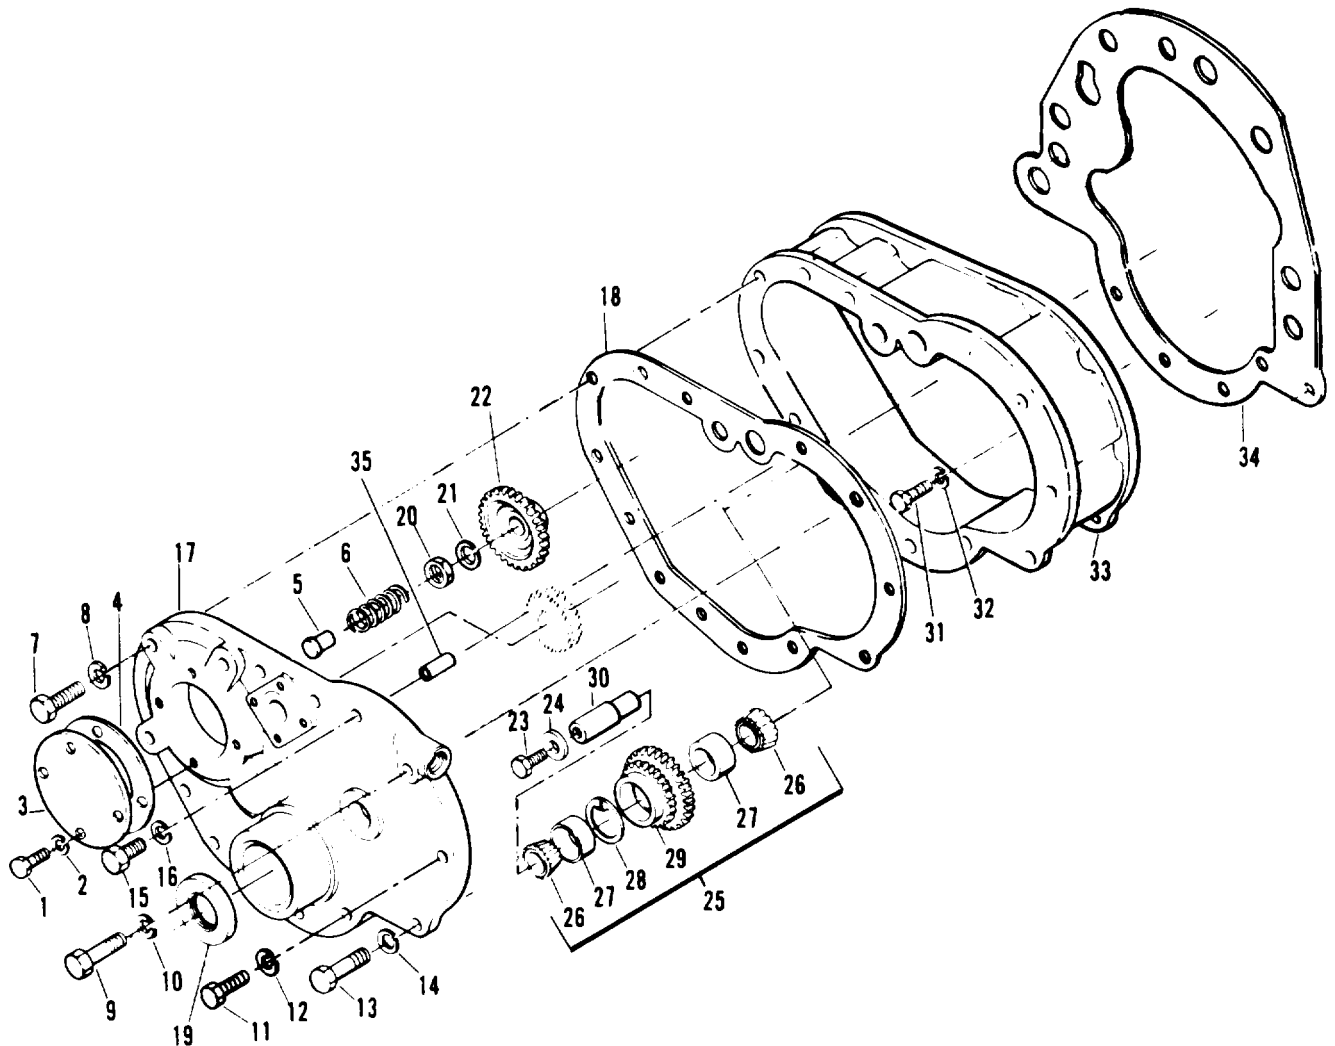

Figure 3-44. Timing Gears and Cover, Exploded View
- (1) Remove the hydraulic pump assembly (paragraph 3-41).
- (2) Remove the fuel injector nozzle from No. 1 cylinder.
- (3) Turn the engine over until the 20 degree before top dead center (BDC) mark on the engine flywheel is aligned with the timing mark on the flywheel housing and No. 1 cylinder is on compression stroke.
- (4) Remove the front engine support (paragraph 3-49).
- (5) Remove screws (1, figure 3-44) and lockwashers (2) to remove fuel pump thrust plate (3), gasket (4), thrust button (5) and spring (6). Discard gasket.
- (6) Remove screws (7, 9, 11, and 13), screws (15), and lockwashers (8, 10, 12, 14, and 16) to remove timing gear cover (17) and gasket (18). Discard gasket.
- (7) Press seal (19) from cover and discard.
- (8) Remove nut (20) and lockwasher (21) to remove fuel pump drive gear (22).
- (9) Remove screw (23) and washer (34) to remove idler assembly (25).
(10) If inspection indicates that idler bearings must be replaced, disassemble idler as follows:
- (a) Remove bearings (26) and press races (27) from gear (29).
(1) Using new gasket, install housing (33) and secure with lockwashers (32) and screws (31).
(2) If shaft (30) was removed, press replacement into timing gear housing.
(3) If bearings were replaced, assemble idler assembly as follows:
- (a) Install ring (28) into gear (29).
- (b) Press races (27) into gear until they seat against ring.
- (c) Install bearings (26).
(4) Check that 20 degree (BDC) mark on flywheel is still aligned with timing mark on flywheel housing.
(5) Install idler assembly and secure with washer (24) and screw (23). Torque idler shaft screw to 24-27 ft-lb.
(6) Install fuel pump drive gear (22) insuring that the proper timing has been maintained (see paragraph 3-22). Secure gear with lockwasher (21) and nut (20). Torque drive gear nut to 35-40 ft-lb.
(7) Press replacement seal (19, figure 3-44) into cover.